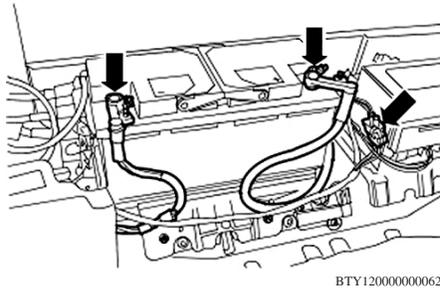

Fig. 1 Battery cable removal
2. Disconnect battery ground cable, **Fig. 1**.
3. Disconnect battery positive cable, **Fig. 1**.
4. Release electrical connector from clip, and release remote jump start terminal harness, **Fig. 1**.